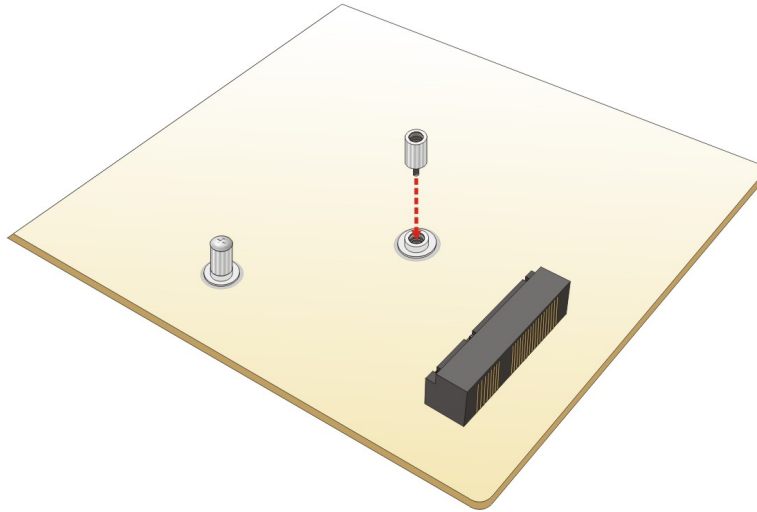

Figure 4-10: Installing the Standoff
Step 2: Install the standoff to the screw hole for the half-size PCIe Mini card. Install the supplied standoff to the screw hole for the half-size PCIe Mini card (**Figure 4-10**).